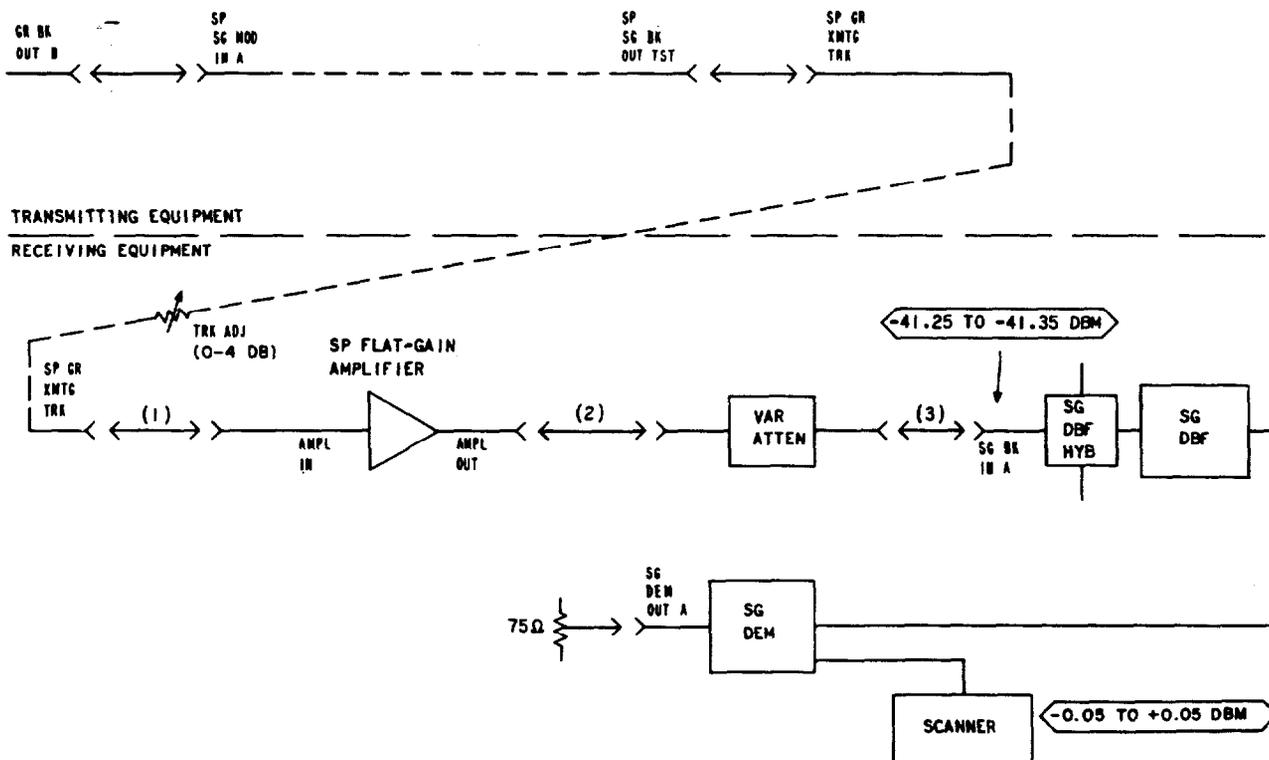

Fig. 2—Regulated Amplifier Test Connections
| 7  | Patch the attenuator output jack to the SG BK IN A jack [patch (3), Fig. 2].   |
18	<p>Remove the pilot by removing the test connection between the GR BK OUT B jack and the SP SG MOD IN A jack (Fig. 2).</p> <p>Requirement: The loss of pilot ALM lamp (on the supergroup amplifier under test only) lights.</p>